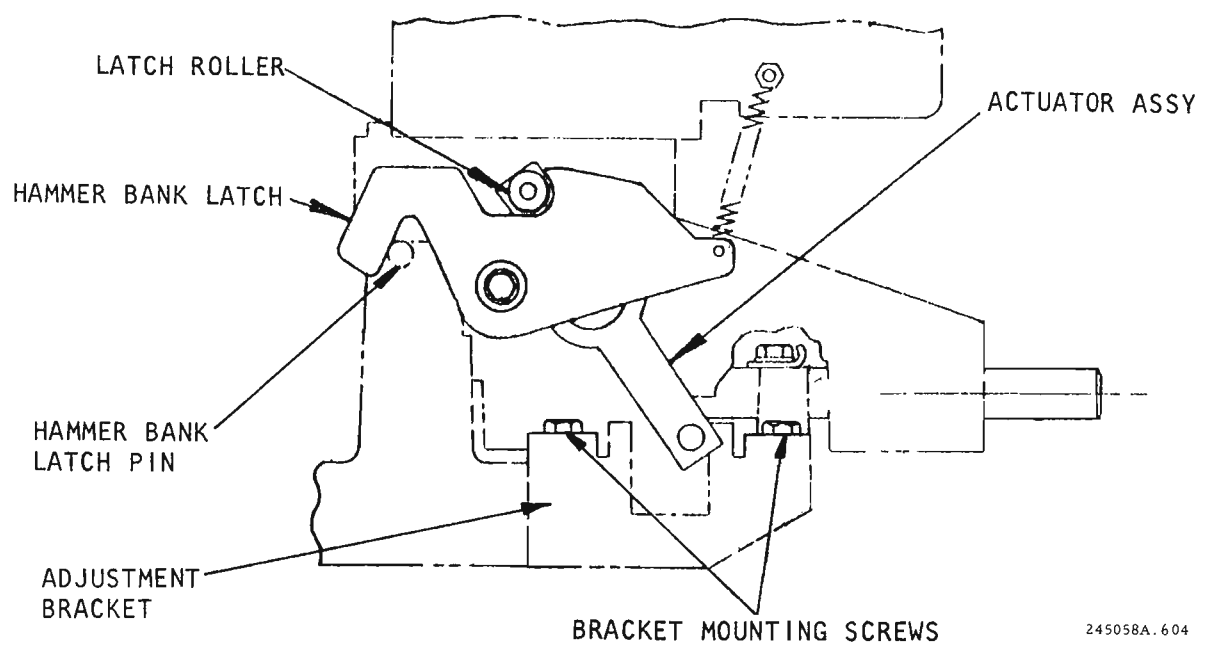

Figure 6-4. Hammer Bank Latch Assembly (Right Side)
- d. Loosen the mounting screws securing each of the adjustment brackets (see figure 6-4).